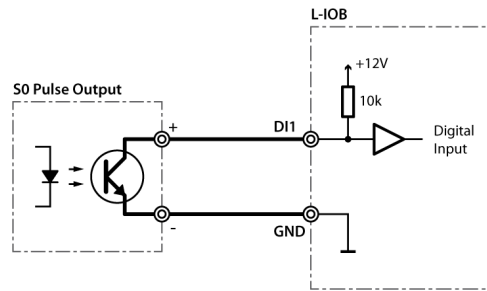

Figure 82: S0 pulse meter connected to DI
S0 pulse meters must be connected to digital inputs (DI) as shown in Figure 82.